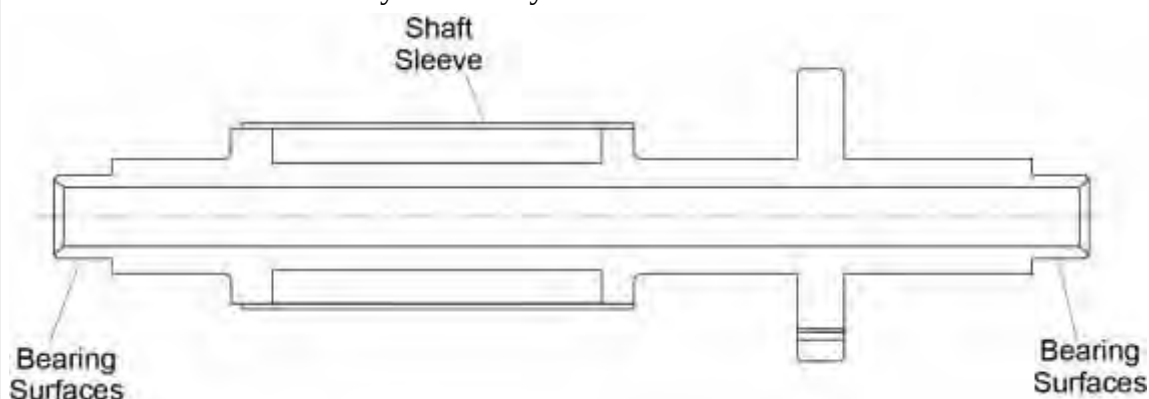

Figure 56
- (c) Complete a full penetrant inspection of the shaft—no cracks allowed (note that the shaft sleeve (Figure 56) is not welded but shrunk on so the interface on both ends of the sleeve should not be inspected).
- (d) Inspect the shaft for surface damage to bearing surfaces (Figure 56). No surface damage to bearing surfaces allowed (notched sections at either end are bearing surfaces both radially and axially).